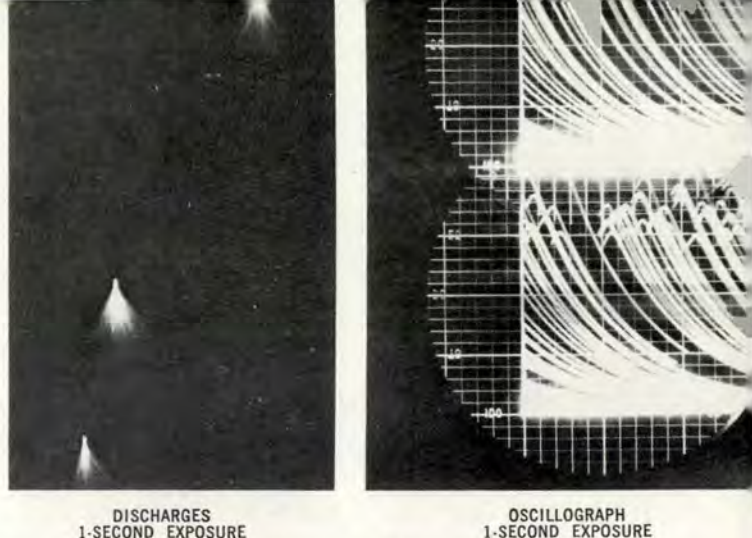

Figure 5. Sixty-Degree Point Versus Metal Plate Discharge.
When the half-inch and one-inch spherical electrodes were used opposite the charged fuel surface, prebreakdown streamers were the only type of discharge obtained over the entire gap range studies (2.5 to 15.0 cm). Unlike the streamer discharges from the metal plate, the prebreakdown streamers from the fuel surface were never followed by spark discharges. Other differences in the behavior of the two electrode systems (fuel surface and metal plate) are apparent in the various types of discharges illustrated in Figures 5 through 8.
Figure 5 shows the type of discharges obtained with the 60-degree point opposite the metal-plate electrode. In the photograph, the discharges exhibit the paintbrush-like form which is typical of corona discharges at electrodes with high positive potential. The accompanying oscillographs show that the corona discharges were composed of many individual low-level discharges per unit length of time. From time-exposure oscillographs, it was determined that the frequency of these discharges increased from 100 to 900 discharges per second over the gap range of 1 to 8 centimeters. The energy of the individual discharges increased from four to 11 microjoules over the same gap range.
A. When an MCA is associated with a NAVAID or reporting point, it will be identified by a "flag" symbol containing an "X." In the case of a NAVAID such as the Fairfield VORTAC in Figure 5, the MCA will be identified by the letters MCA above the appropriate airway designation and number, the applicable altitude, and the direction of flight, e.g., V134 10800E. With reporting points, as shown at the Vernon fix in Figure 5, the letters "MCA" are not normally included and the other information is centered below the reporting point identification. If there are multiple minimum crossing altitudes associated with a fix or NAVAID, as is the case at the Fairfield VORTAC, the information may be consolidated under one listing.